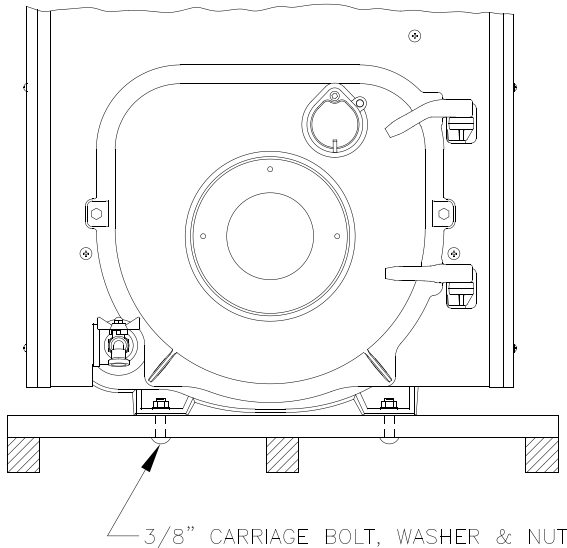

Figure 4: Removal of Boiler From Skid
1. Boiler is secured to base with 4 carriage bolts, 2 on left side and 2 on right side. See Figure 4.